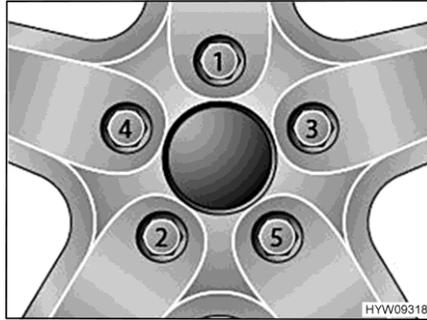

Fig. 150 Tightening the wheel nuts or wheel bolts cross-wise
- Tighten the wheel nuts or wheel bolts in the order shown in Fig. 150. In order to do this, use a torque wrench and comply with the specified tightening torque (see section 13.7.2).
- Check regularly that the wheel nuts or wheel bolts are firmly seated. Re-tighten the wheel nuts or wheel bolts of a changed wheel after 50 km (30 miles). While doing so, proceed in the order shown in Fig. 150.
- When using new or newly painted rims, re-tighten the wheel nuts or wheel bolts once again after approx. 1,000 to 5,000 km (600 miles to 3,000 miles). While doing so, proceed in the order shown in Fig. 150.
- ▷ Tighten the wheel nuts or wheel bolts cross-wise (Fig. 150).